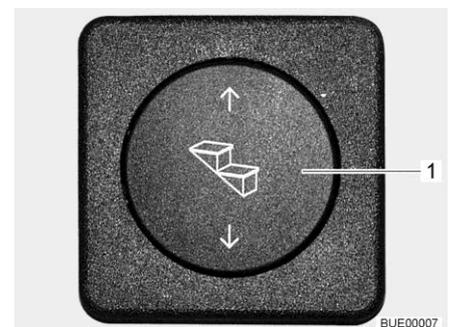

Fig. 9 Operating button for entrance step
- Press the operating button (Fig. 9,1) down and hold it pressed (at least 3 seconds) until the entrance step has extended completely.
- Press the operating button (Fig. 9,1) up until the entrance step has retracted completely.